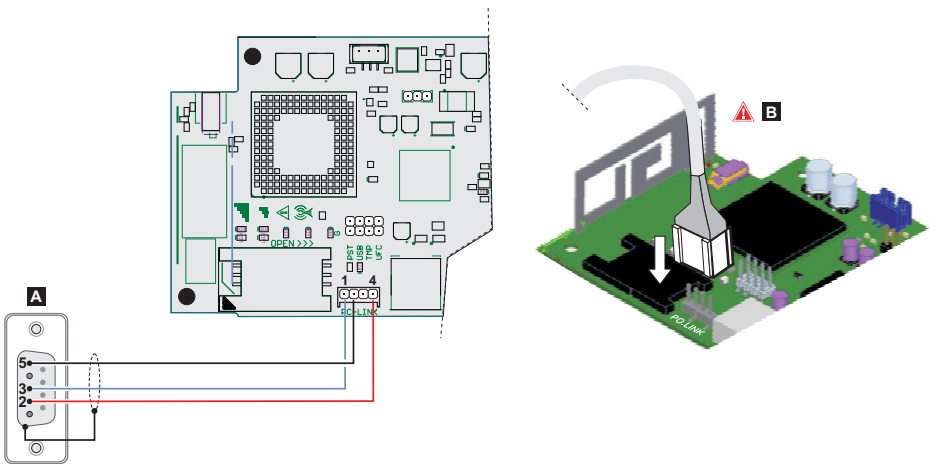

Figure 8 – PC-LINK cable connection: **A)** RS-232 female connector, solder side **B)** insert the PC-Link cable properly.
1. Connect the communicator PC-LINK serial port to a free RS232 serial port on the PC using the PC-LINK cable (accessory item), as shown on Figure 8.